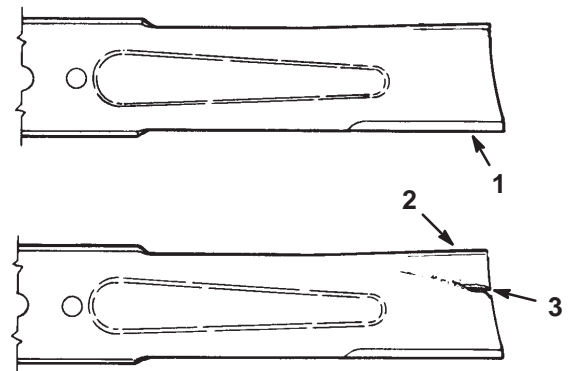

Figure 24
2. Inspect the cutting edges (Fig. 24). If the edges are not sharp or have nicks, remove the blade(s) and sharpen them; refer to Sharpening the Blade(s), page 14.
3. Inspect the blade(s), especially the curved area (Fig. 24). If you notice any damage, wear, or a slot forming in this area (Fig. 24), immediately install a new blade.